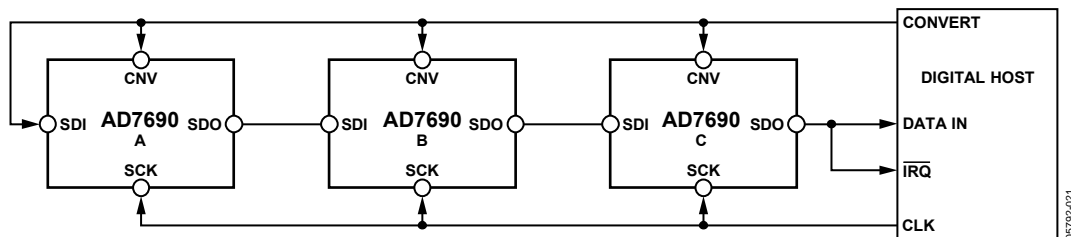
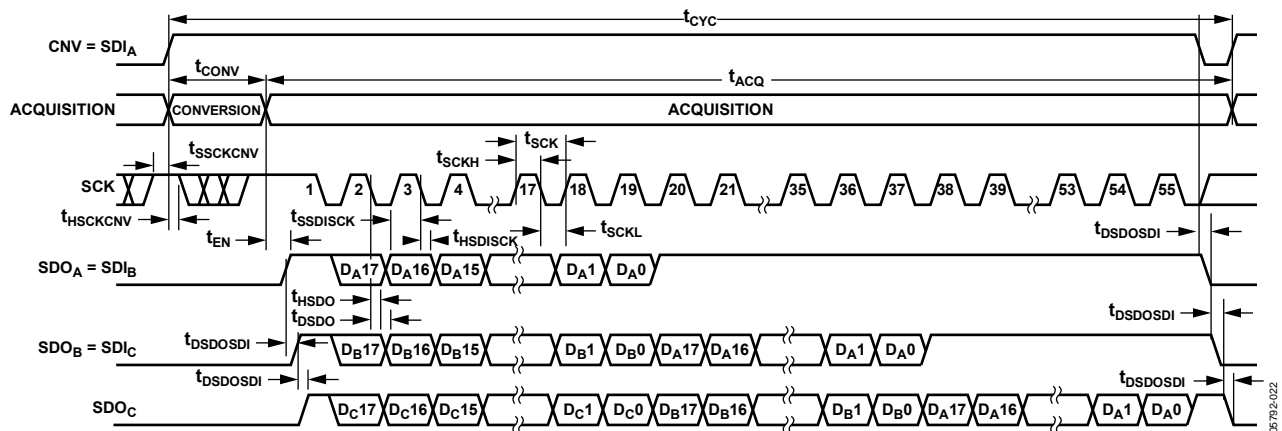

Figure 44. Chain Mode with Busy Indicator Connection Diagram
Figure 45. Chain Mode with Busy Indicator Serial Interface Timing
- In chain mode if SCK is high during the CNV rising edge (see Figure 45).
A connection diagram example using three AD7690s is shown in Figure 44, and the corresponding timing is given in Figure 45.
completed their conversions, the SDO pin of the ADC closest to the digital host (see the AD7690 ADC labeled C in Figure 44) is driven high. This transition on SDO can be used as a busy indicator to trigger the data readback controlled by the digital host. The AD7690 then enters the acquisition phase and powers down. The data bits stored in the internal shift register are clocked out, MSB first, by subsequent SCK falling edges. For each ADC, SDI feeds the input of the internal shift register and is clocked by the SCK falling edge. Each ADC in the chain outputs its data MSB first, and  $18 \times N + 1$  clocks are required to read back the N ADCs. Although the rising edge can be used to capture the data, a digital host using the SCK falling edge allows a faster reading rate and consequently more AD7690s in the chain, provided the digital host has an acceptable hold time.